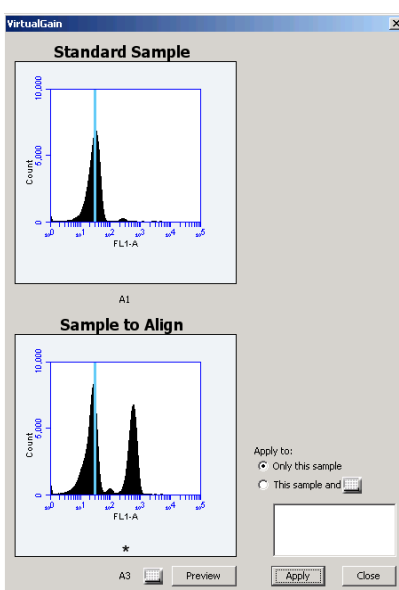

Figure 6-8 Step 15, A black asterisk appears under the Sample to Align plot.
15. Click **Apply** to apply VirtualGain to the data. A black asterisk will now appear under the Sample to Align plot. This indicates that VirtualGain has been applied to that parameter for that sample. VirtualGain is only applied to the displayed data. It does not alter the FCS data. The VirtualGain is recorded only in the CFlow file (Figure 6-8).